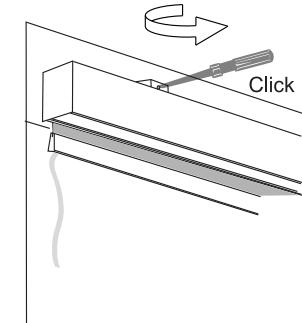

Fig 4
- Pull down the film and mark the position of the band fixing point and the cord guide re Fig. 4. Fix these with screws.